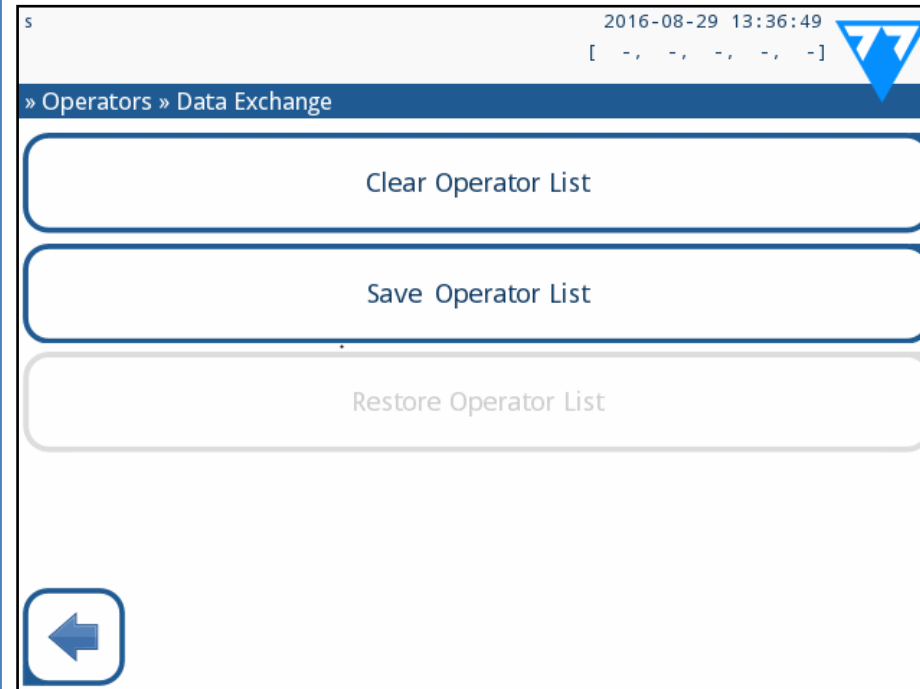

Figure 50: The Data Exchange menu
- 1 Select an operator account on the list, and enter its **Settings»Operators»Rights** menu (☞ Figure 50).
and supervisor-level operator accounts on the **Settings»Operators»Rights** menu (☞ Figure 50).